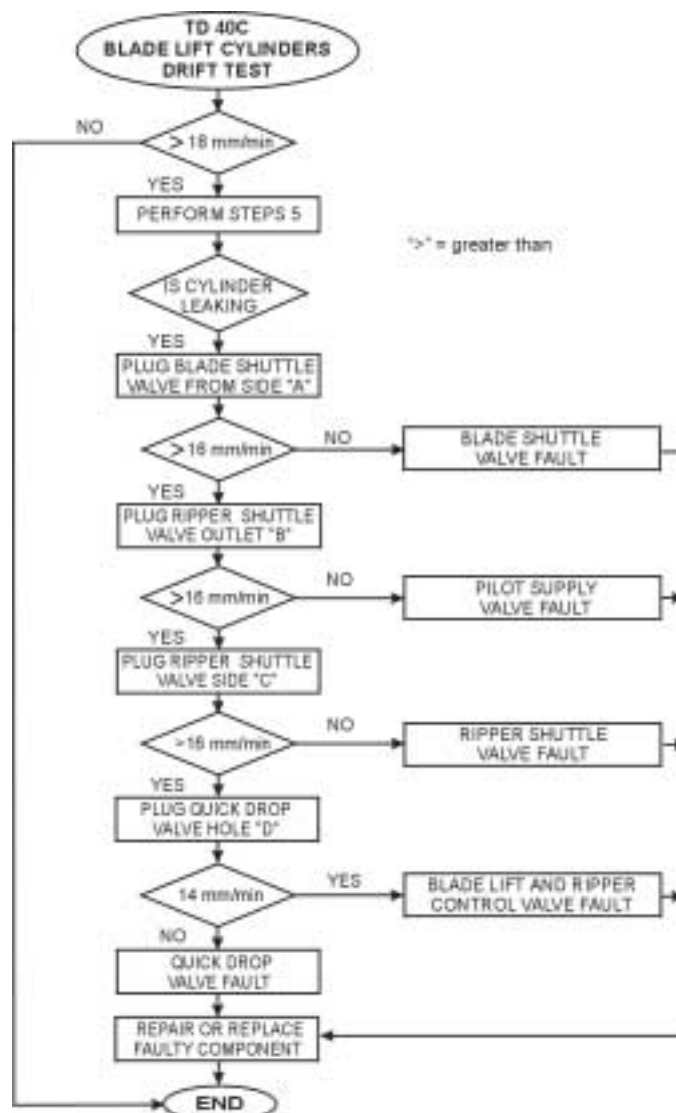

Fig. 10.4. Diagnostic Chart
5. BLADE LIFT CYLINDER DRIFT TEST (Fig. 10.4 and Fig. 10.6)